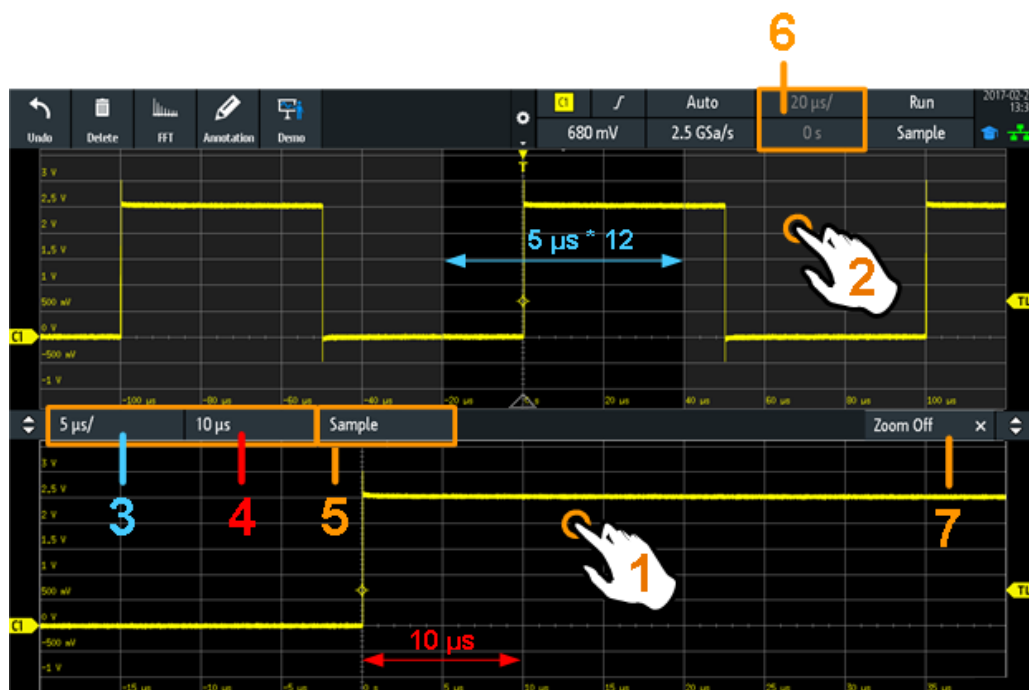

Figure 7-1: Display of horizontal zoom: zoom in bottom window, normal waveform in upper window
- Tap the zoom scale or zoom position label in the zoom window and enter a value on the keypad. These settings are horizontal values, which take effect in horizontal and vertical zoom windows. See number 3 and 4 in Figure 7-1.